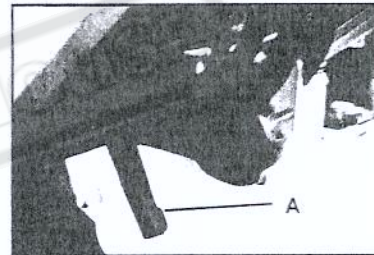
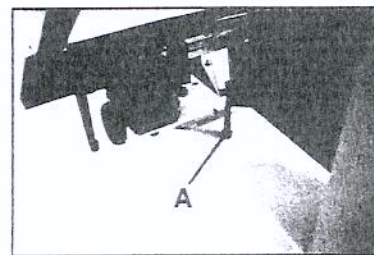

Fig. 4
Fig. 5
- Loosen the lock knobs (A, Fig. 4) and tilting table left until it rests against table stop bolt M8.(A, Fig. 5)